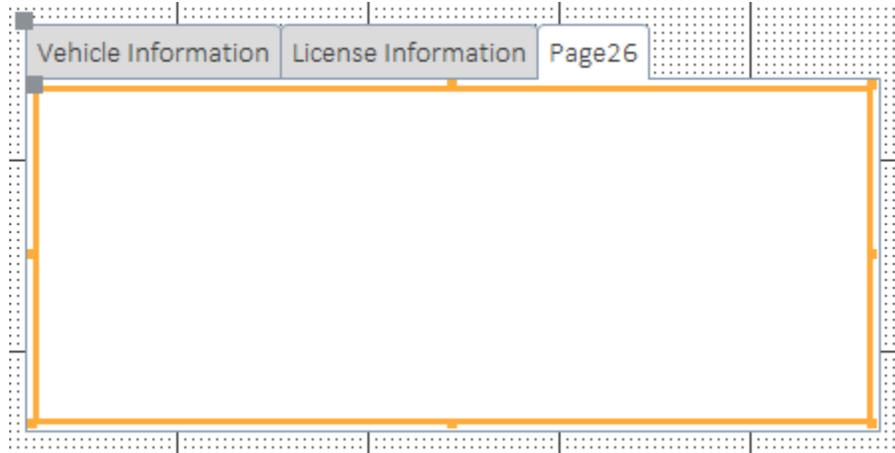

Figure 45: New Tab Page
- Add a Customer Information Tab Page: To add another tab page, right-mouse-click to the right of the second tab page and choose **Insert Page** from the shortcut menu. A new page is inserted (Figure 45). Name the new page “Customer Information”. You may have to drag the tab control wider to accommodate the new tab page.